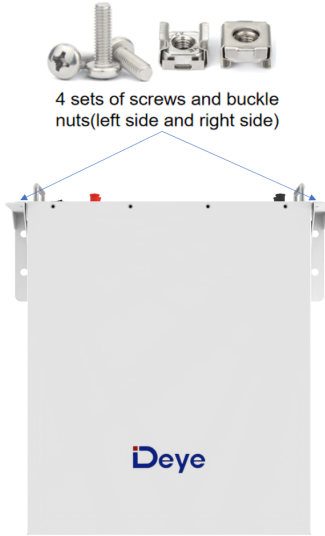

Figure 4-4
- j) Carry the battery and hold it. Fix the battery to the support after fixing it to the wall. Ensure that battery mounting ears are aligned with the left and right holes on the support, as shown in Figure 4-4.